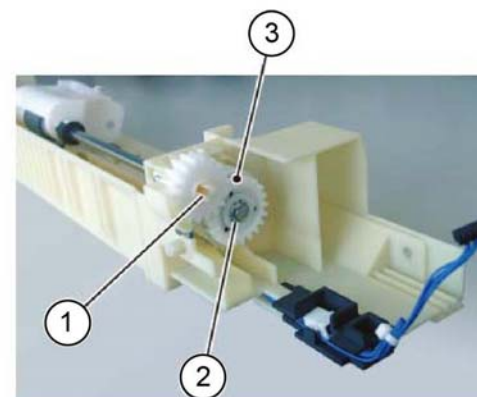

Figure 5 Feed clutch removal
6. Remove the bypass tray feed clutch, Figure 5:
- a. Release the hook, then remove the gear (1).
- b. Remove the E-clip (2).
- c. Remove the bypass tray feed clutch from the shaft (3).